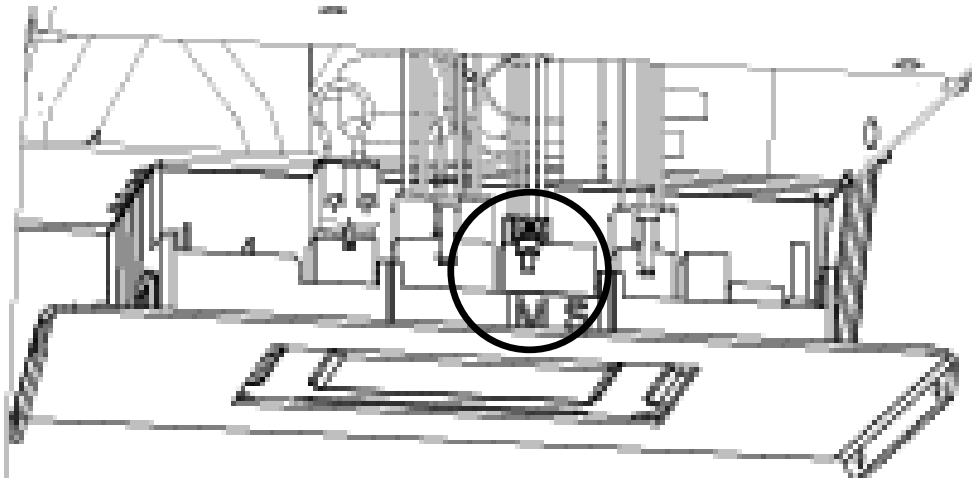

Figure 7.7.
- Disconnect the Regulator motor wire harness lead from module **Terminal "M"**, fig. 7.7
- Connect the motor leads to **Terminal "M"** on the IFC. See Figs. 7.7 - 7.8..